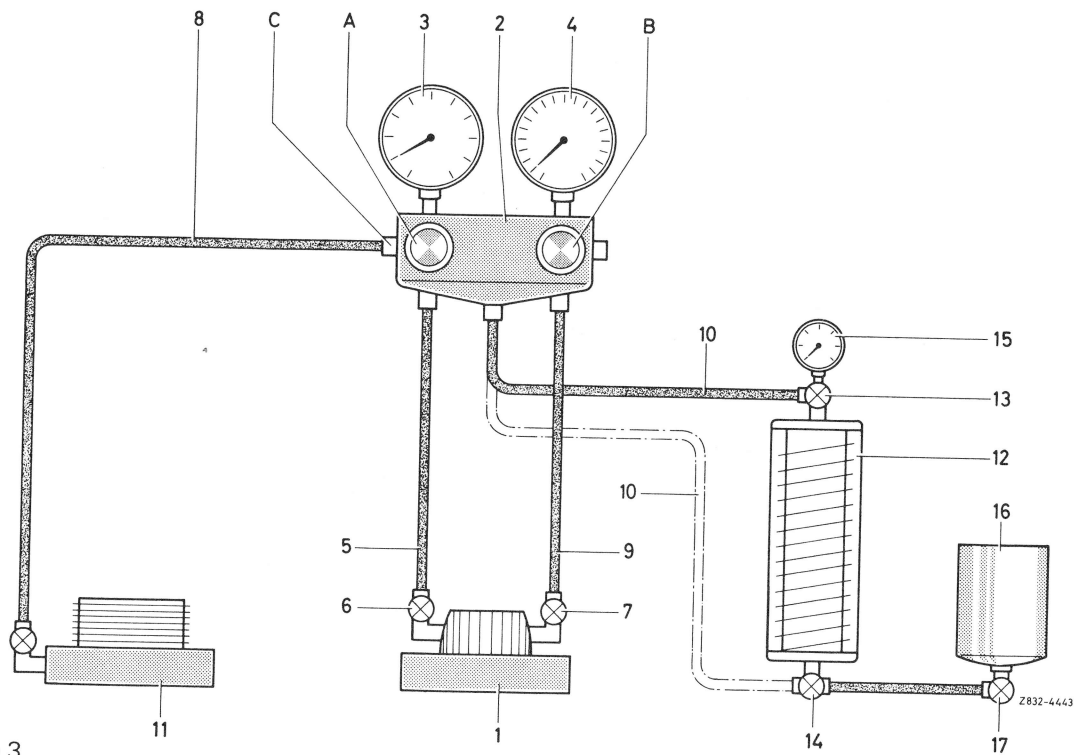

Figure 3
2 Connect hoses (5 and 8 to 10) — as shown in Fig. 3. Make sure that the angular end of the hose (8) with the pressure pin for operating the Schrader valve is connected to connection C on the gauge set (hoses without pressure pin cannot be used here!).
2 Connect hoses (5 and 8 to 10) as shown in Fig. 3. Make sure that the angular end of the hoses 5, 8 and 9 with the pressure pin for operating the Schrader valve is connected to connection C on the gauge set or on the connection of the two service valves (hoses without pressure pins cannot be used here).